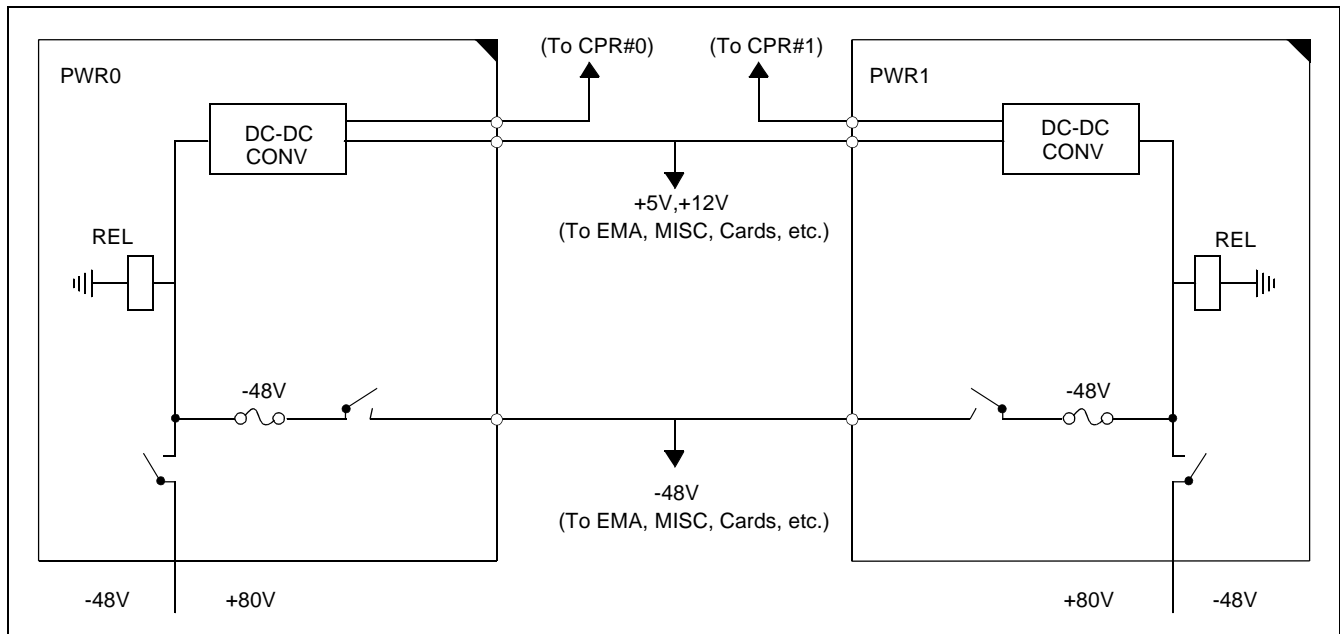

Figure 5-17 Power Supply to LPM
(5) Figure 5-17 shows the power supply system for LPM.